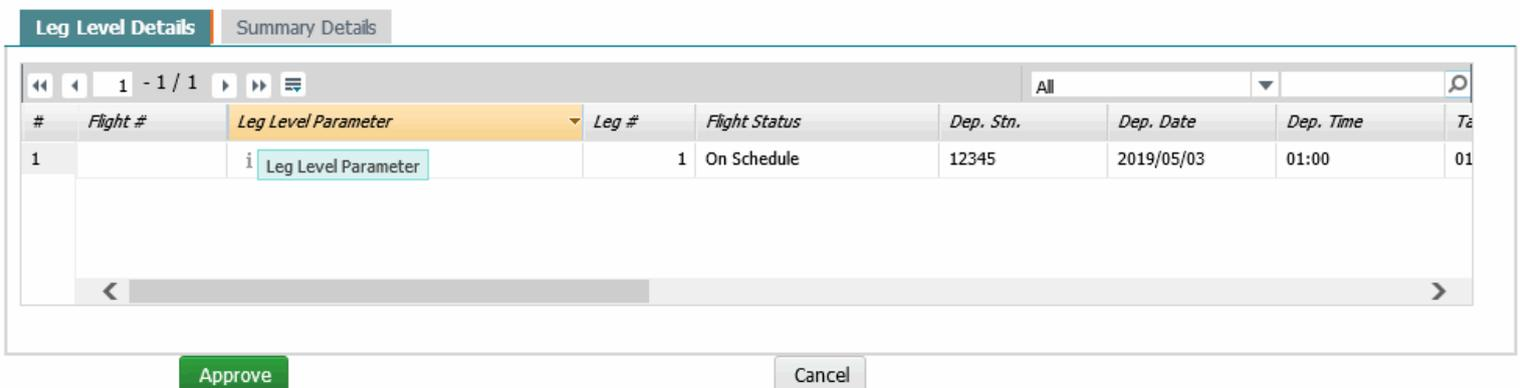

Figure 2.7: The Leg Level Details multiline
1. Click the hyperlinked Journey Log # to display the following details in the **Leg Level Details** multiline. Alternately, click the Leg Level Details tab to view the **Leg Level Details** multiline. *See Figure 2.7.*